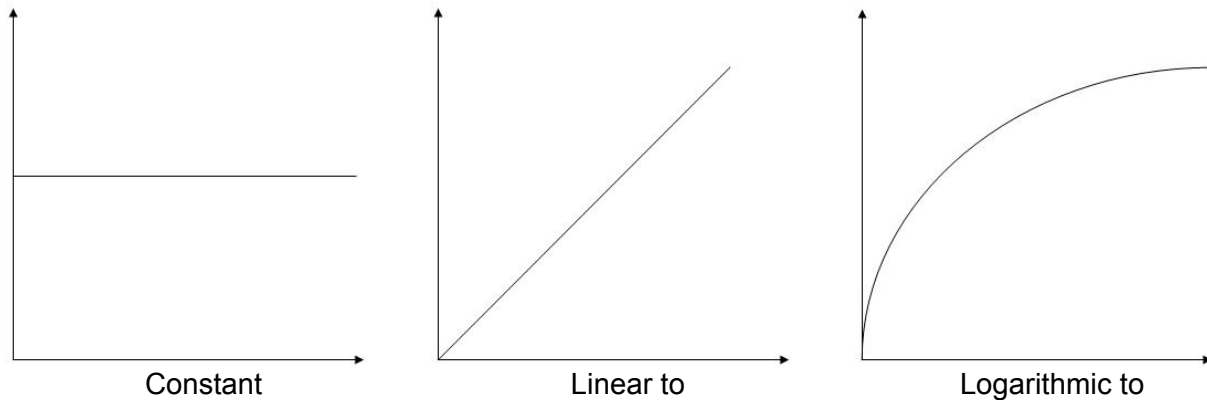

Figure 5 Modes available to define the course between two parameter values
- Voltage (V) [1-255V]
- For the interval, angle and voltage two parameters each have to be set and the mode to be selected. The mode defines the course with that the instrument changes between the set parameters. If two identical values are programmed for a parameter the mode will be set to “constant”. If two different values are programmed the mode can be set to “linear to” or “logarithmic to” (see Figure 5 for the differences). For the angle 0° additionally the mode “PFGE off” exists.